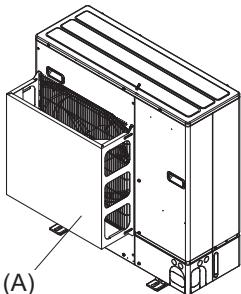
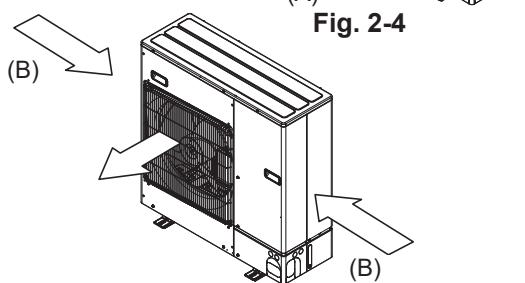

Fig. 2-4
Fig. 2-5
2. Install an optional air outlet guide and air guide if the unit is installed in a location where strong winds from a typhoon, etc. may directly enter the air outlet. (Fig. 2-4)
- (A) Air outlet guide
3. Position the unit so that the air outlet blows perpendicularly to the seasonal wind direction, if possible. (Fig. 2-5)
- (B) Wind direction